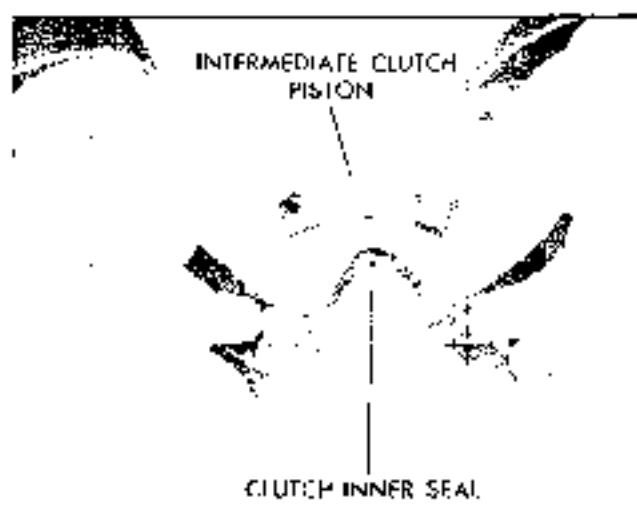

Fig. 7E-110 Installing Intermediate Clutch Inner Seal
1. Install new inner and outer seals on piston with lip of seal facing away from spring pocket (Fig. 7E-110 and 7E-111).
grooves of piston into grooved areas of center support (Fig. 7E-112).